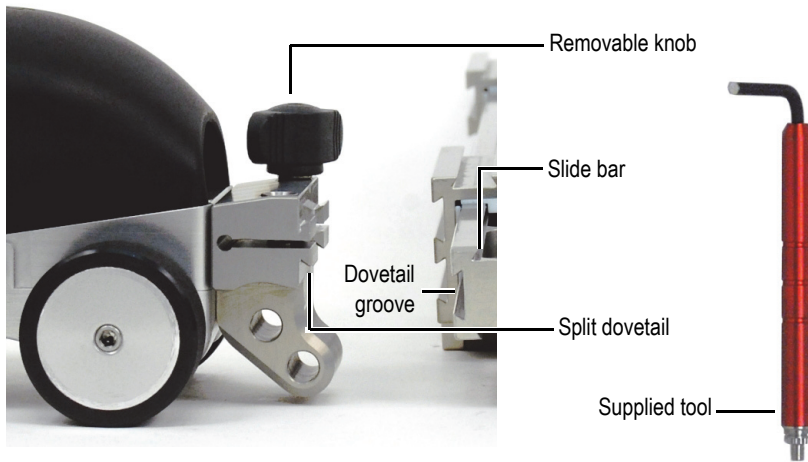

Figure 2-1 Coupling the main module with the slide bar
1. If there is enough room to manipulate the removable knob, use it to couple the main module to the slide bar. When there is not enough room, remove the knob (simply pull it out), and use the supplied tool (insert into the screws) (see Figure 2-1 on page 34).